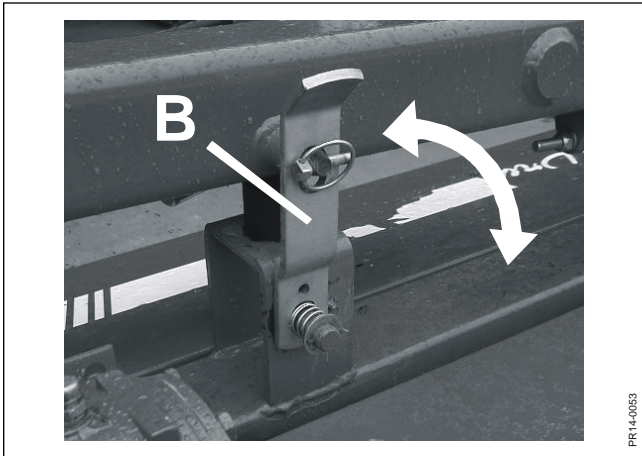

Fig. 3-7
- Fig. 3-7**
- Fig. 3-7** Raise the machine.